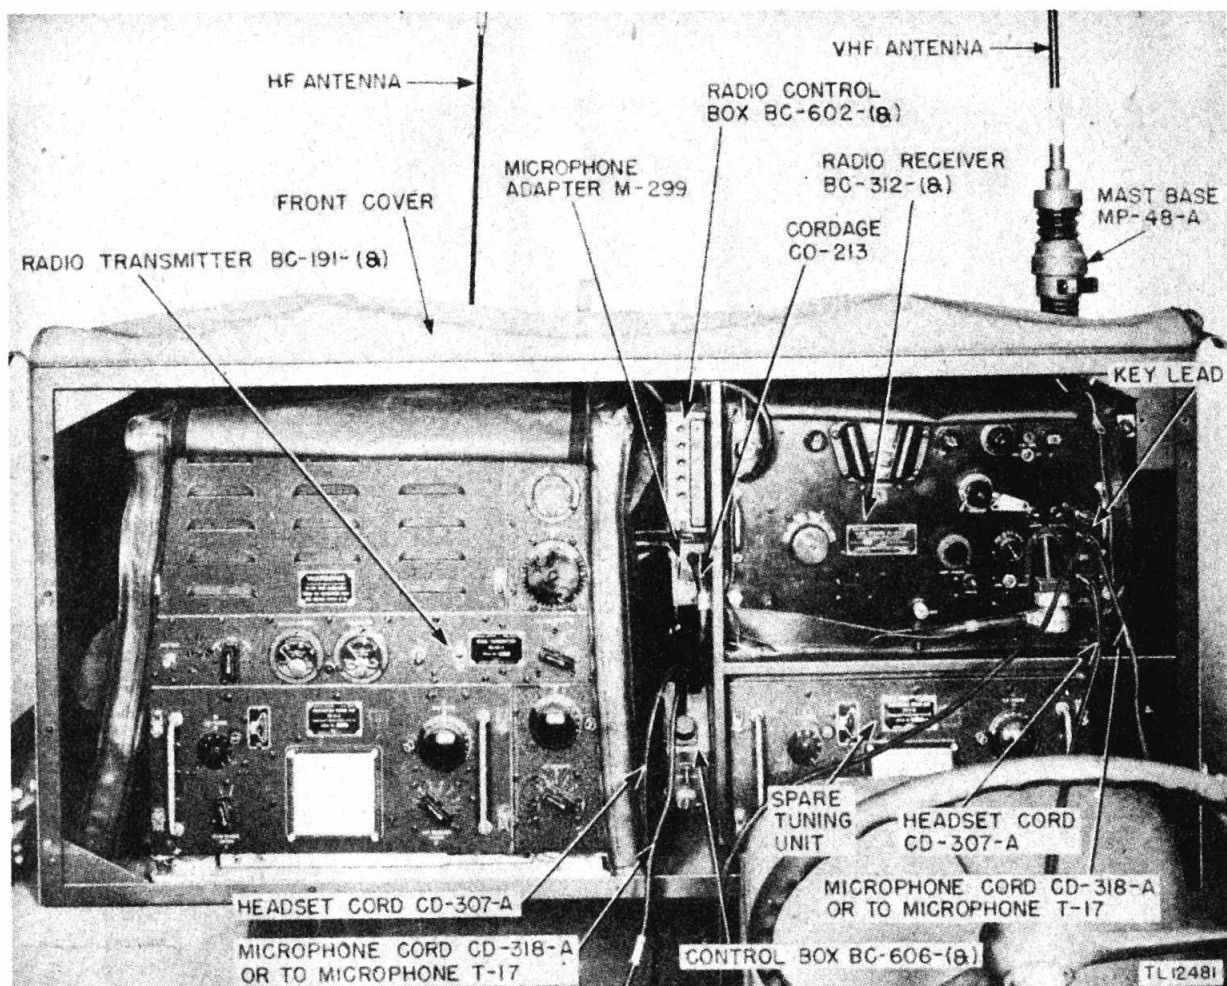

Figure 3. Radio Set SCR-193-(8) installed in Cabinet CH-217.
Radio Set SCR-193-(ampersand) is a high-frequency radio composed of Radio Transmitter BC-191-(ampersand) and Radio Receiver BC-312-(ampersand) mounted in the front portion of Cabinet CH-217 (fig. 3).
a. Insert the microphone and headset plugs into the proper jacks at the right lower end of the receiver front panel (fig. 3). The function of each jack is indicated by the marking on the jack cover.